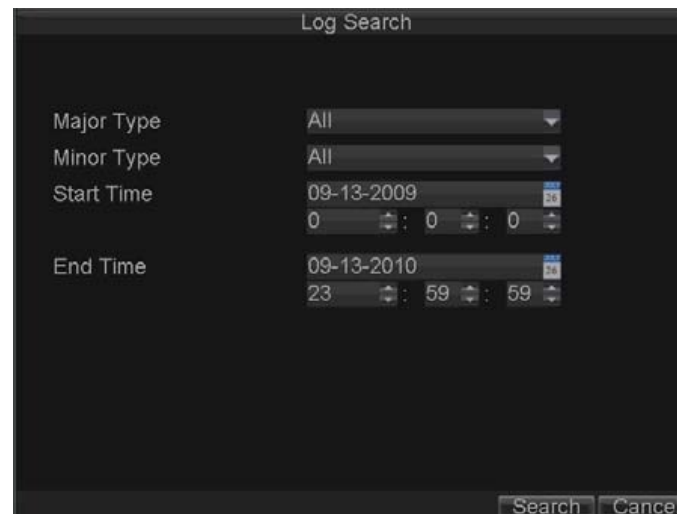

Figure 14.14. Log Search Menu
- 1) Click Menu > Maintenance > Log Search to enter the Log Search menu, shown in Figure 14.14.